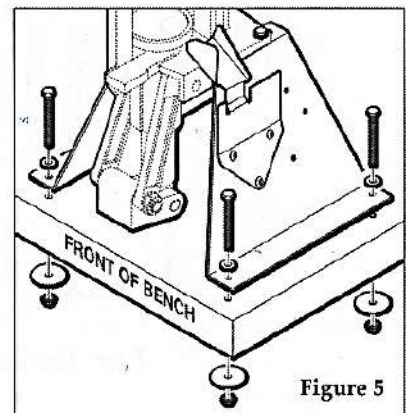

Figure 5
- Step 5 Use the four long bolts, the four remaining small washers, four fender washers and the four remaining lock nuts to bolt the machine to the bench as shown in Figure 5.